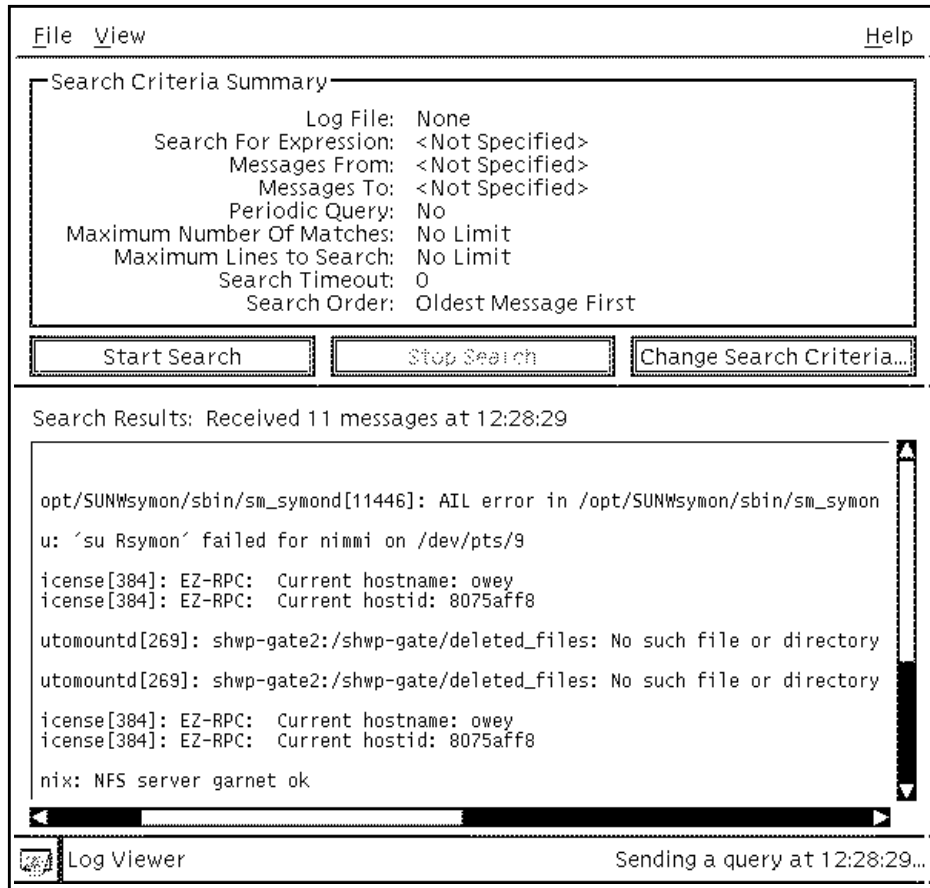

FIGURE 3-22 Log File Viewer Window
- **To display the Log Viewer console, open the Log Viewer console as shown in FIGURE 3-22.**
The Search Results window is empty until you specify the search criteria in the Search for Expression entry (see FIGURE 3-22) and initiate the search. You can specify your own Search Criteria, retrieve and use a stored Search Criteria, or retrieve and modify a stored Search Criteria. Log entries retrieved by a search include the items listed in TABLE 3-7.
- **To initiate a search, select the Start Search button from the Log File Viewer window (FIGURE 3-22).**
1. **Select the Change Search Criteria button in the Log File Viewer window (FIGURE 3-22).**